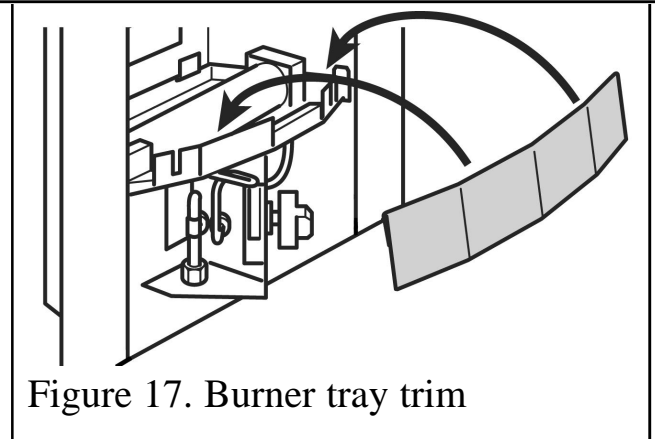

Figure 17. Burner tray trim
1. Fit the burner tray trim over the front rim of the burner tray. Push the trim fully down (See figure 17).